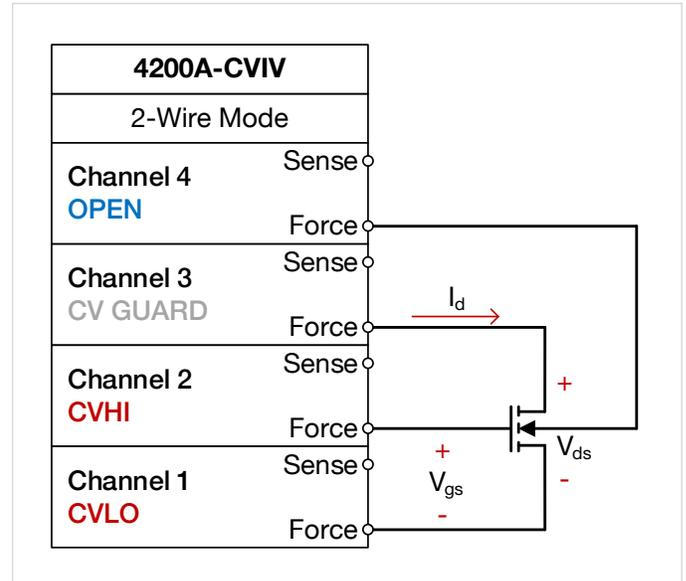

Figure 12. I-V characterization of a four-terminal MOSFET using the 4200A-CVIV.
**Figure 12** shows the device connections, and 4200A-CVIV settings, for an I-V test on a four-terminal MOSFET. The configuration is shown in two-wire mode, also known as local sense, but remote sensing should be used for high current MOSFETs. All of the connections to the MOSFET are made with 4200-TRX-.75 triaxial cables. The device can be a packaged part in a test fixture or located directly on a wafer in a probe station.